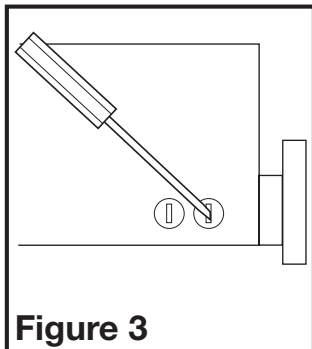

Figure 3
- Remove the electrical knockouts using a straight-blade screw driver (Figure 3).